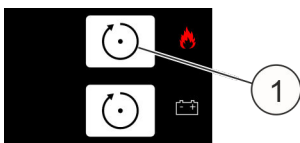

Fig. 22: [Reset] button
31. ▶ Reset the alarm with the upper [Reset] button (Fig. 22 /1).